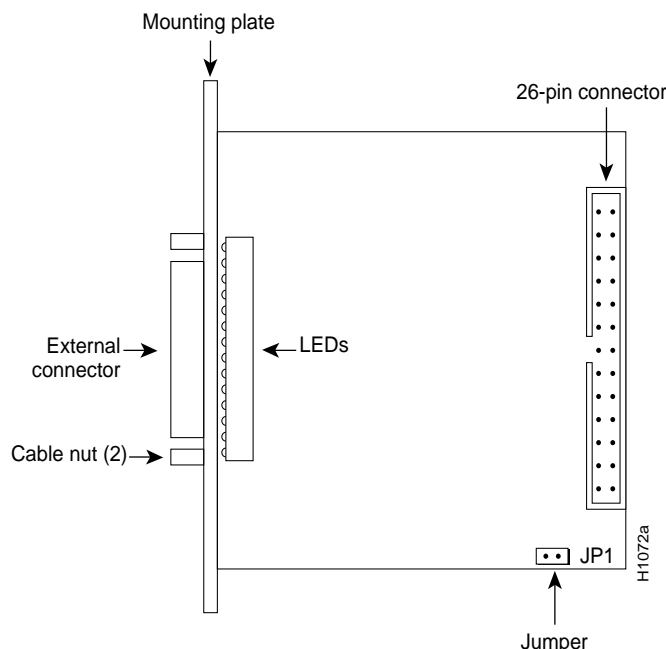

Figure A-7 HD V.35 Applique—Bottom View
The HD V.35 applique has only one jumper (JP1), which selects Serial Clock Transmit Internal (SCT) (from the chassis) or Serial Clock Transmit External (SCTE) (to the chassis) as the timing source for Signal Detect (SD) when the applique is in DCE mode. The default is SCTE (for DTE mode), which is selected when the JP1 jumper is in. To select SCT (for DCE mode), remove the jumper. The cable used determines the mode of the applique. The HD V.35 applique is illustrated in Figure A-7.